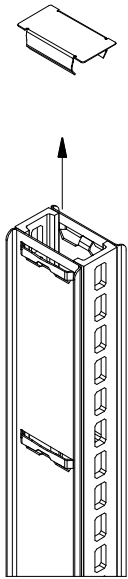

FIGURE 1
STEP 1: REMOVE TOP CAP FROM EXISTING UPRITE. (**FIGURE 1**)